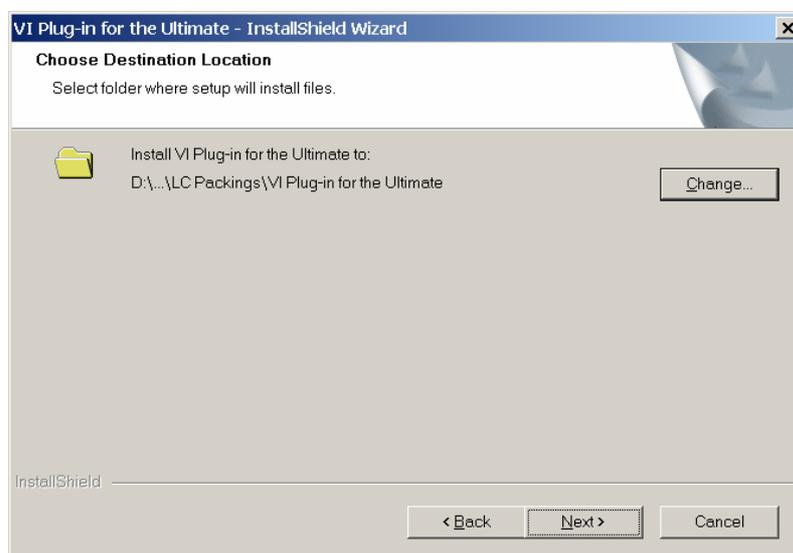

FIGURE 2-8 The Choose Destination Location Box
- c) Click **Next** to open the 'Choose Destination Location' box (FIGURE 2-8).